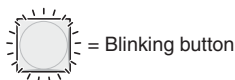

Figure 3-67 — RS-232/RS-422 and baud rate display
1. To enter *Serial Port Configuration* mode, simultaneously press and hold all Control buttons (Enter, Preset, View, and Esc) (figure 3-67).